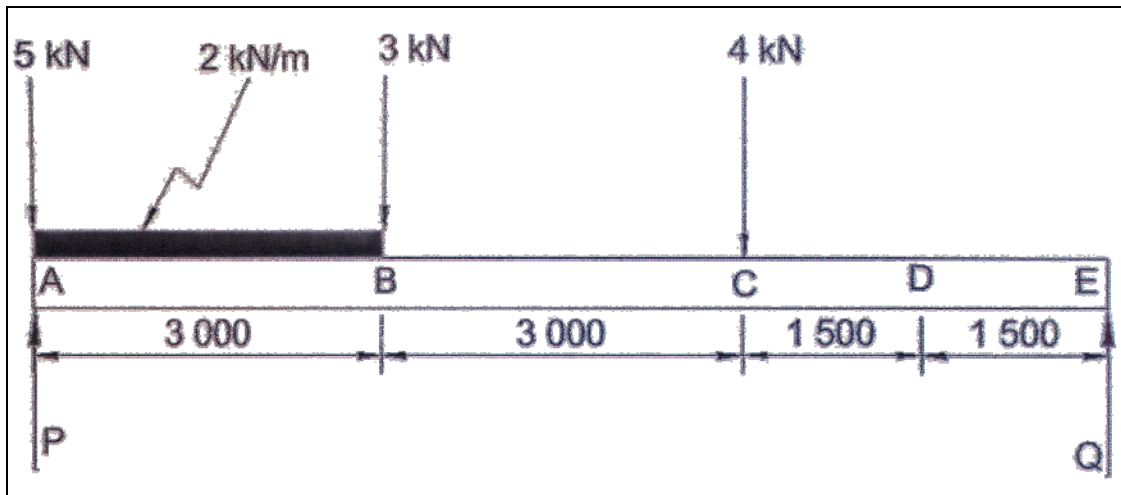

Figure 5.2
- 5.2 FIGURE 5.2 below shows the space diagram of a beam with THREE point loads and ONE uniformly distributed load. The length of the beam is 9 m. Study the beam carefully and answer the following questions: